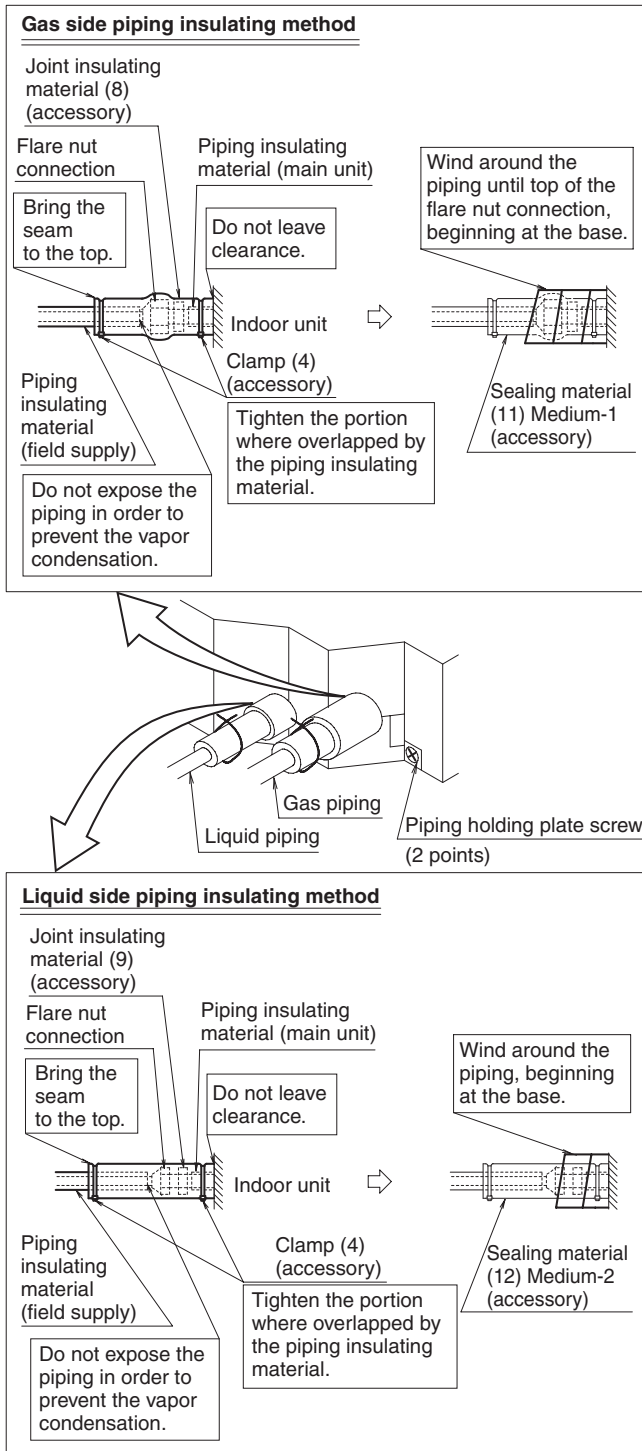
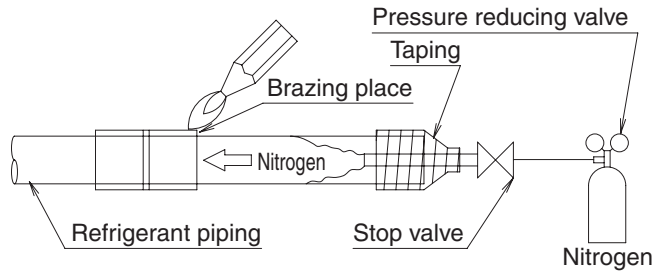

Fig. 12
Fig. 13
- After leak test, referring to Fig. 12, insulate both the gas and liquid piping connection with the attached joint insulating material (8) and (9) to prevent the pipings from getting exposed. Then, tighten the both ends of insulating material with the clamp (4).
- Wrap the sealing material (Medium-1, 2) (11) (12) around the joint insulating material (8) and (9) (flare nut section), both the gas and liquid piping.
- Make sure to bring the seam of joint insulating material (8) and (9) to the top.
- Before brazing refrigerant piping, have nitrogen flow through the refrigerant piping and substitute air with nitrogen (NOTE 1) (Refer to Fig. 13). Then, carry out brazing (NOTE 2). After all the brazing works are finished, carry out flare connection with the indoor unit. (Refer to Fig. 12)